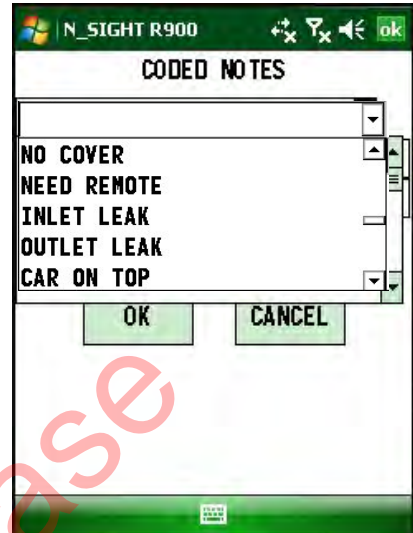

Figure 6.7 Drop-down Selection List of Coded Notes
- 2 Touch the DOWN  arrow to view the list of codes, as illustrated in Figure 6.7.